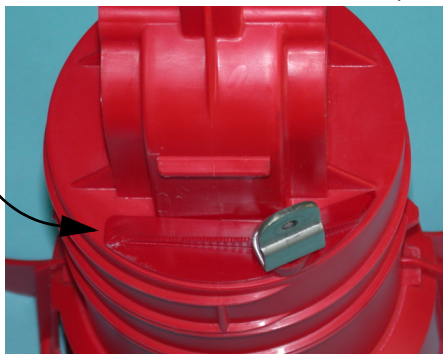

Figure 25. Rotate brood adjustment prior to grill installation.
2. Rotate brood adjustment until cover washer is flush with outer cone, see figure 25.